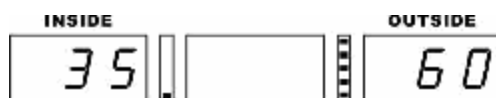

Fig 16
- I Rotate the wheel. If all indicators at the outside of the wheel are on (see Fig 16), it indicates that the highest point at the outside is the imbalance position (see Fig 18). The method to determine the imbalance position for inner side of the wheel is the same as that for outside.